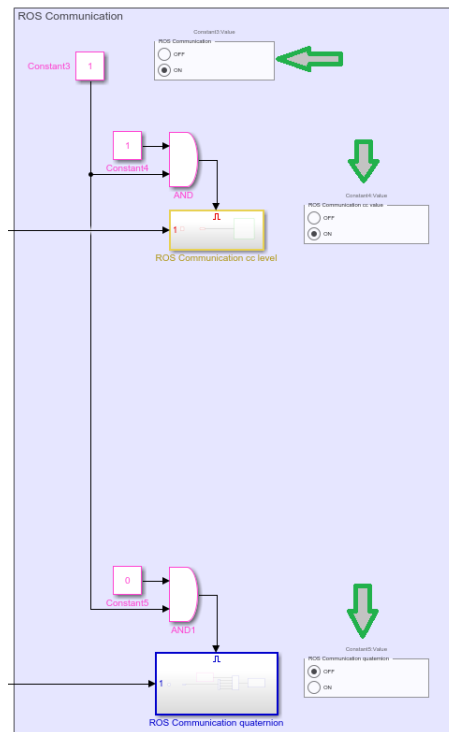

Figure 7: ROS Communication
10. in 'gForce_data_acquisitionn_ccOnline_ROS_v2_1.slx' [ROS Communication] set to 'off' all the Radio Buttons (Figures 7)
6. in 'gForce_data_acquisitionn_ccOnline_ROS_v2.1.slx' [ROS Communication] set to 'on' the required Radio Buttons (Figures 7)